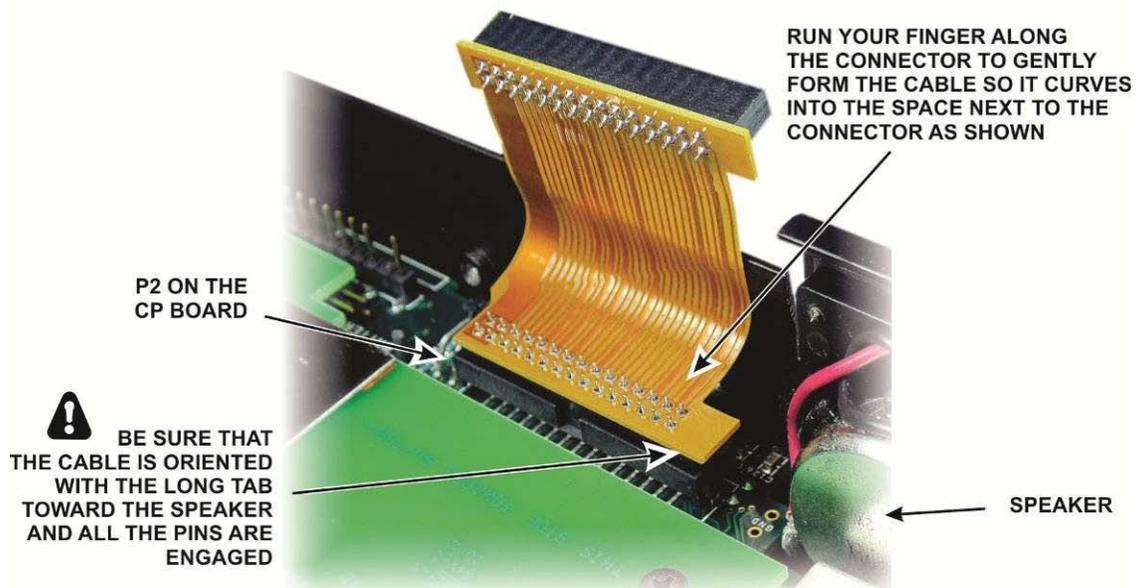

Figure 61. Plugging the Flex Cable into the CP Board.
Plug the flex cable into P2 on the CP board as shown in Figure 61. Be sure it is oriented with the long tab on the cable toward the speaker as shown.
**⚠ CAUTION:** As you close the covers ensure that the flex cable folds into the space next to the CP board connector as shown. Do not allow it to fold toward the battery holders. If the flex cable resists pushing into the space next to the CP board connector, use your finger to gently crease it along the edge of the connector as shown in Figure 61.